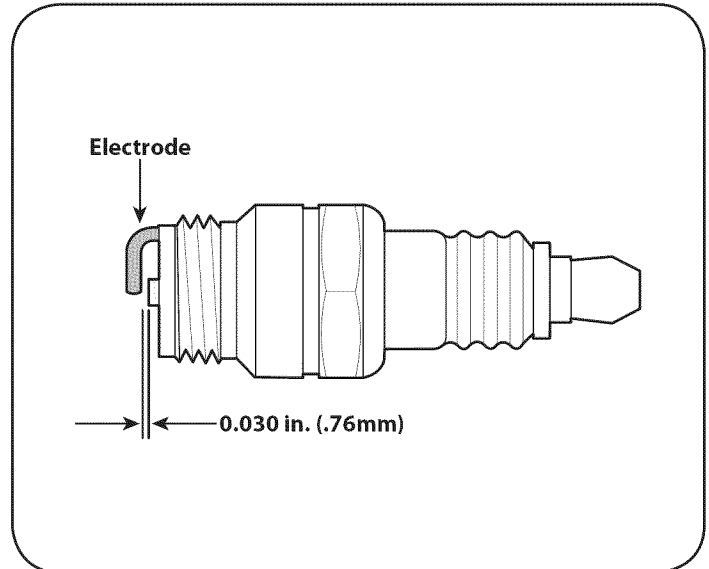

Figure 13
3. Check the gap with a wire gauge. See Figure 13. Spark plug gap should be 0.030 in (0.76 mm). If necessary, reset the gap.